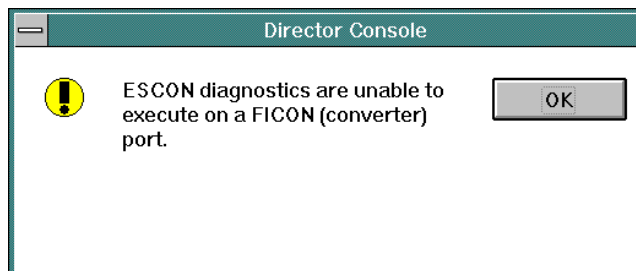

Figure 123. ESCON Diagnostics Message Box
**Note:** The *ESCON* option performs diagnostics only for LED or XDF Laser ports. If an attempt is made to perform FCV port diagnostics using the *ESCON* option, the following message box appears (Figure 123).